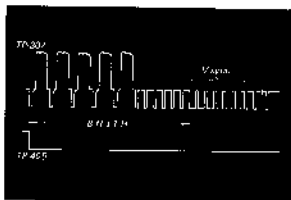

Fig. 7-4
3. Adjust R411 on the SV4 Board so that the interval between the leading edge of vertical sync and leading edge of the 25 PG pulse is 88 ± 1 H as shown in Fig. 7-4.